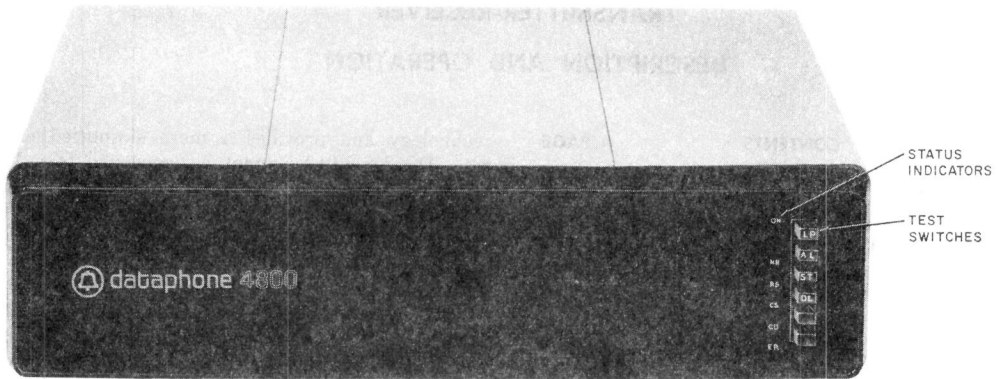

Fig. 1—Front View of DS 208-L1A or DS 208A-L1B
**1.03** †DS 208A-L1 and DS 208A-L1A are rated manufacture discontinued (MD). They are replaced by DS 208A-L1B (Fig. 1) which provides all the features of DS 208A-L1A and is electrically, but not physically, identical to DS 208A-L1A. Three circuit packs (CPs) contained in DS 208A-L1A have been consolidated into one CP for DS 208A-L1B. This CP utilizes large scale integration (LSI)